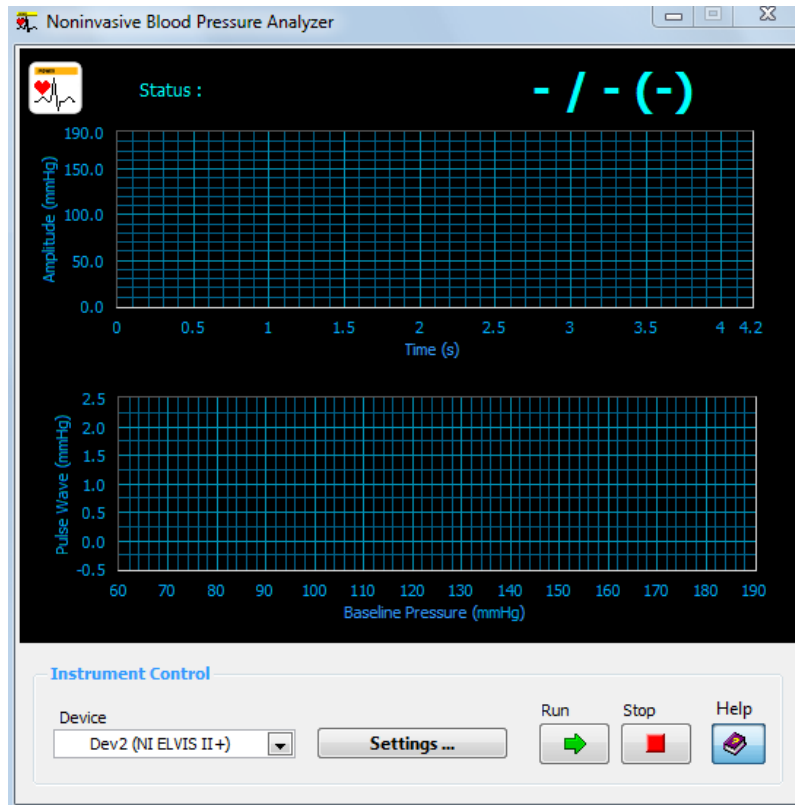

Figure 4: Noninvasive Blood Pressure Analyzer
- 3) Select Noninvasive Blood Pressure (NIBP) Analyzer from the Biosignal Tab. Two blank charts will be displayed in a separate window (Figure 4).